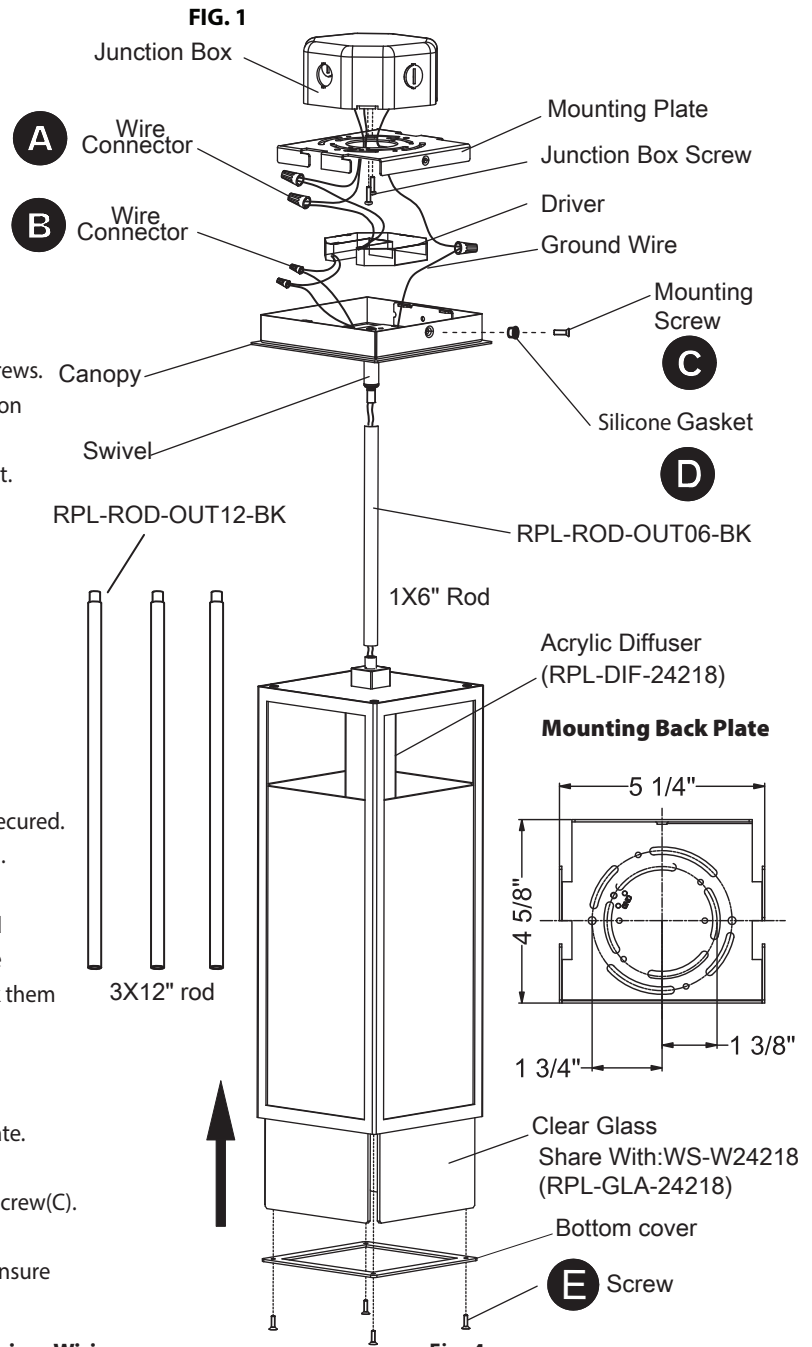

Fig. 2 Wiring
CONNECTING THE WIRES (Fig. 2 and 3)
9. Connect the driver input wires to junction box wires as shown (Fig. 2). Make sure that all wire connectors (A) are secure. If your outlet box has a green or bare copper ground wire, connect the fixture's ground wire to it. Otherwise, connect the fixture's ground wire directly to the back plate using the screw provided. After wires are connected, tuck them carefully inside the junction box.